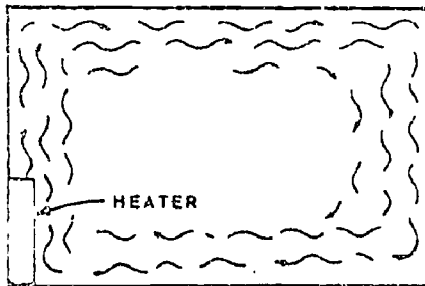

Fig. 2
1. Which term applies to the transfer of heat by another agent such as air as illustrated by figure 2?